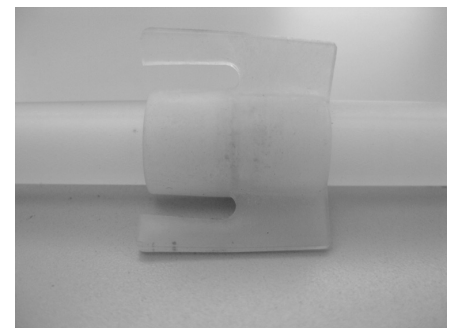

Figure 8
4. **Inner Tube, Center Support & Shaft Sleeve Installation** - for all models - Reinstall the inner tube, center support (if used) and shaft sleeve (items 13, 14 & 15). Slide the shaft sleeve onto the shaft. The shaft sleeve is self-positioning so slide it up as far as it will go on the shaft. Reinstall the inner tube with center support (if used) over the shaft and shaft sleeve. The double o-ring side seats up into the head with a slight twisting motion. Make sure the inner tube is seated properly. The bottom of the inner tube will be flush with the bottom of the outer tube when properly seated.
5. **Intake Tube Installation** - for EFP & EFV models - Install the intake tube (item 16). Make sure the center support (if used) is installed correctly on the inner tube. The center support has a slight taper that allows the outer tube to slide easily over it. See figure 8. Slide the intake tube with external threads over the shaft, shaft sleeve, inner tube and center support (if used) up into the head (item 6). Turn the intake tube counter clockwise (left hand thread) to tighten it into the head. Hand tighten.